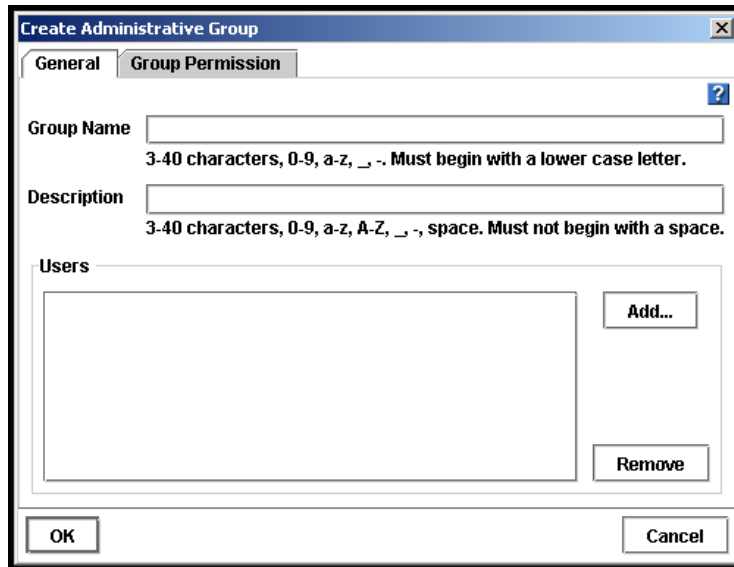

Figure 97. Adding an Administrative Group
Administrative groups are listed on the SSM Administration window on the Groups tab, shown in Figure 97.
2. Click Add on the Groups tab. The Create Administrative Group window opens, shown in Figure 97.